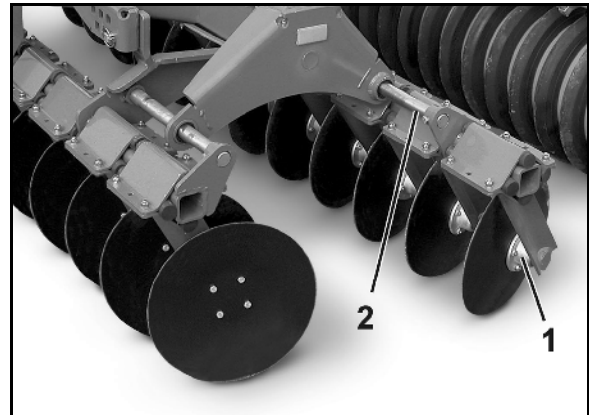

Fig. 11
The mounting of the concave discs (Fig. 11/1) consists of a two-row angular contact ball bearing with slide seal and oil filling and is maintenance-free.
- The offsetting of the two disc rows is adjusted via the offset slide (Fig. 11/2) to working depth and speed.